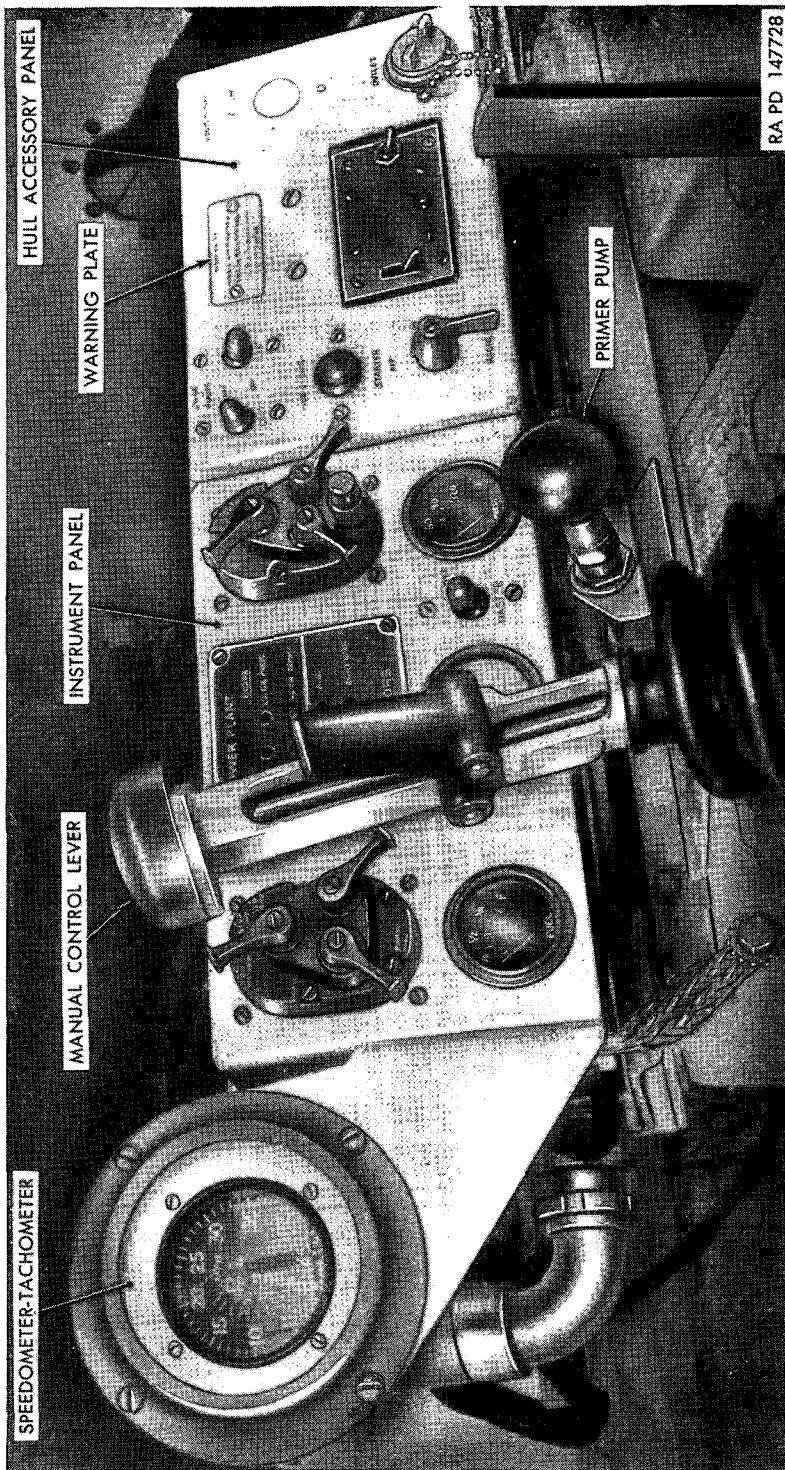

Figure 190. Instrument and hull accessories panel—installed view.
a. DESCRIPTION. This section provides descriptive information and removal and installation procedures for the instrument and hull accessories panels and their components, which are mounted in the crew compartment, and the sending units and switches, which are mounted on the engine and transmission. The instrument panel, hull accessories panel, and a speedometer-tachometer unit secured to the instrument panel are mounted in the forward portion of the crew compartment (fig. 190). On the panels are mounted electrical controls, gages, warning signal lights, rectifier units, and circuit breakers required for the operation of the vehicle and hull accessories. Warning signal lamps may be replaced from the face of the instrument panel. Removal of any other unit requires removal of instrument panel or hull accessories panel. Refer to figures 193 and 194 for wiring and schematic diagrams of the sending units and switches.
a. GENERAL. The instrument panel consists of a box with no back, shock-mounted on vertical supports ahead of the driver (figs. 190, 195, and 196). The light switch, magneto-starter-booster-degasser switch, master relay switch, warning lights panel, engine oil pressure gage, and left- and right-fuel gages are secured to the face of the instrument panel (fig. 8). Three circuit breakers are mounted on the rear-lower left of the panel and a master-current-relay, rectifier unit on the rear-lower-right (fig. 195). The speedometer-tachometer unit is secured to a bracket at the left of the instrument panel (figs. 18 and 190). A main warning lamp is provided to indicate when one of the warning signal lights is on (fig. 21). Full instructions for the use of the various instruments and controls on the panel are given in chapter 2, section II.
a. GENERAL. The hull accessories panel consists of a box with no back, shock-mounted on vertical supports beside the instrument panel (figs. 190 and 195). Front and rear bilge pump switches, auxiliary engine starter and magneto switches, accessory outlet, and heater control box panel with heater "ON" and "OFF" switch, manual reset circuit breaker, and safety valve reset switch are mounted on the face of the panel (fig. 18). Four circuit breakers are mounted on the rear-right side of the panel. The rear of all controls and units is latex-coated for waterproofing. Full instructions for the use of the various controls on the hull accessories panel are given in chapter 2, section IV.